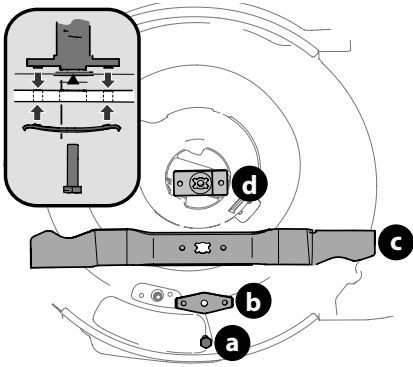

Figure 25
4. Remove bolt (a) and blade bell support (b) which hold the blade and the blade adapter to the engine crankshaft (Figure 25).
5. Remove blade (c) and blade adapter (d) from the crankshaft (Figure 25).
- Lubricate the engine crankshaft and the inner surface of the blade adapter with light oil (Figure 25 inset).